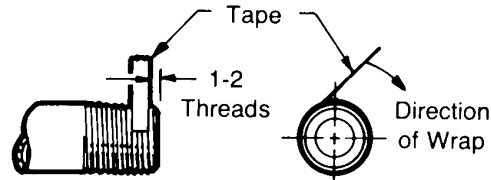

Figure 3
- d. Place the two (2) gaskets over top ring of cage in proper order.
- h. Replace valve body into piping system using Teflon[®] tape or equivalent on all male tapered pipe threads as shown in Figure 3 below.